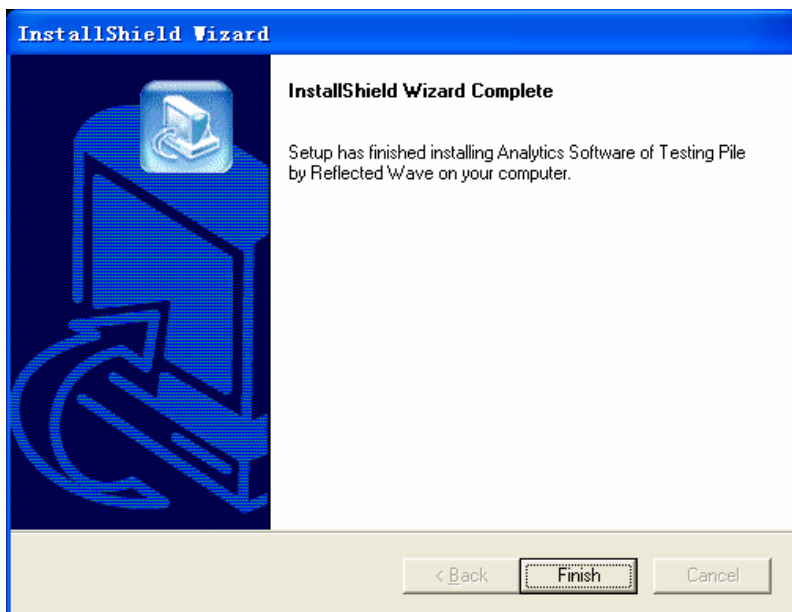

Figure 2.8 Install Completion
6. Once the files are copied completely, you will see a pop-up Install Completion dialog box (Figure 2.8). Click the **Finish** button you will end the installation. After that a shortcut icon to invoke this software will appear on the desktop and program package. Select the option of “now restart computer” if there is one, then the system will restart automatically and finish the installation.